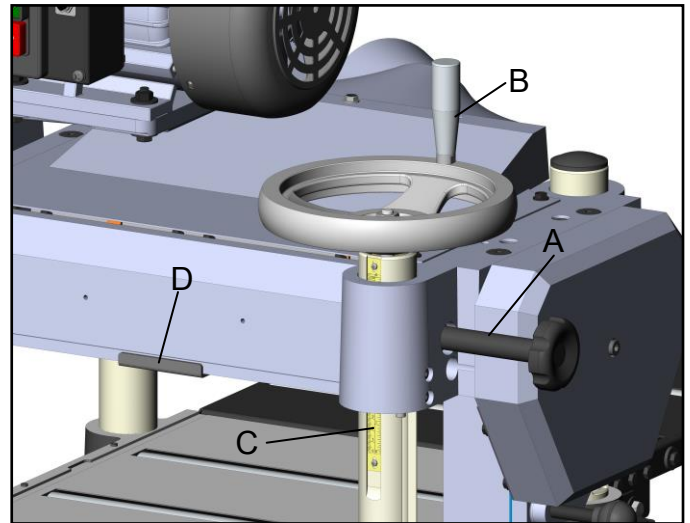

Fig.10
Turn the handwheel (B) on a clockwise or counter-clockwise direction to the proper height, Fig. 10. The depth of cut on your planer is controlled by raising or lowering the head assembly shown in Fig. 10, which contains the cutterhead and feed roller. The head assembly raises and lowers on four precision steel ground columns. To adjust for depth of cut, simply loosen the two head assembly lock knobs (A), and turn the handwheel (B). After the desired depth of cut is obtained, tighten the lock knobs (A) combination inch/metric scale (C) is conveniently located on the right front column for easy reading. The maximum depth of cut on full width planning is 1/8" (3.175mm). A limiter (D) is provided on single phase machines to limit the depth of cut. If the workpiece to be cut is less than 6", the allowable maximum depth of cut is no more than 6mm in one pass, Fig. 10